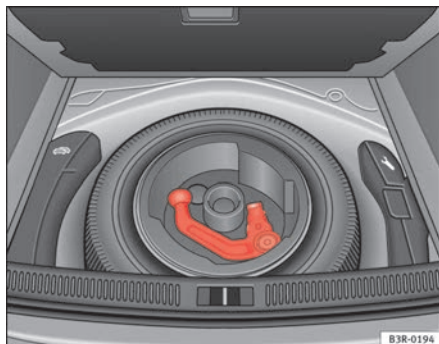

Fig. 148 Luggage compartment: Spare wheel with towing bracket
- On vehicles with a spare wheel ⇒ fig. 148.